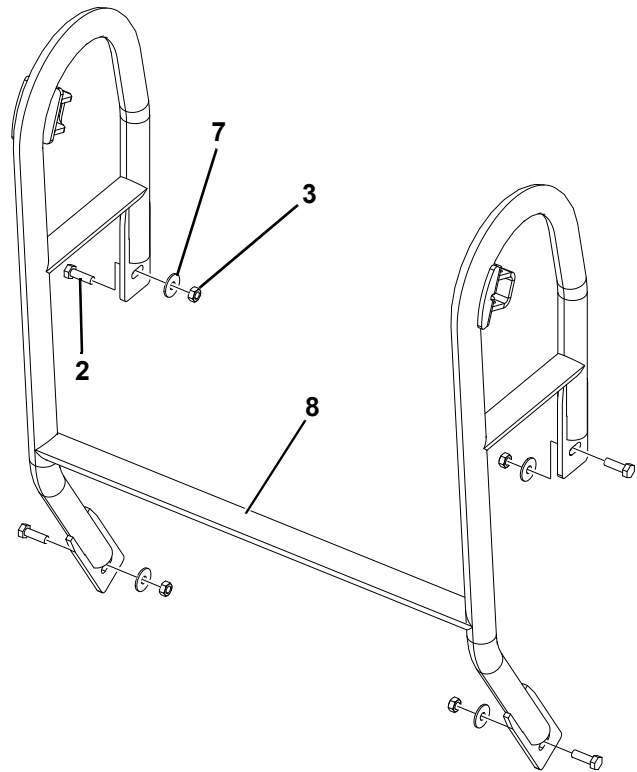

Figure 4-38.
1. Install the SkyGuard Support Bracket (**8**) onto the welded mounts on platform rails. Secure the support bracket using four Bolts (**2**), relevant Washers (**7**) and Nuts (**3**). See Figure 4-38.